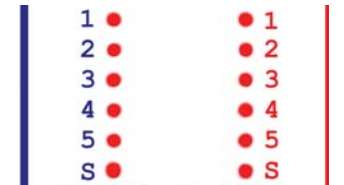

Fig 12. Intermittent testing
3. Releasing the Test button will cause the tester to run through all the connections continuously until a fault is found all the LED's will glow (Fig 12). Please note there is no battery saving feature in this method and prolonged use will shorten the battery life.